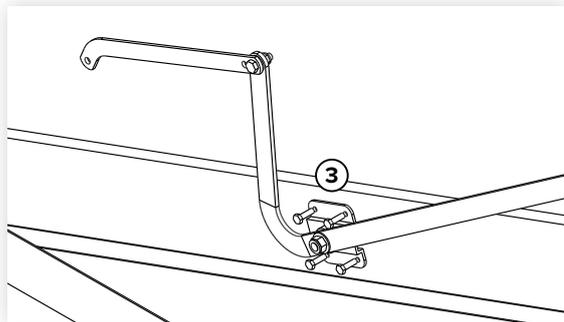

figure 4
4. Using fixings ③ attach the left and right hand upper stay assembly to the frame (figure 4).